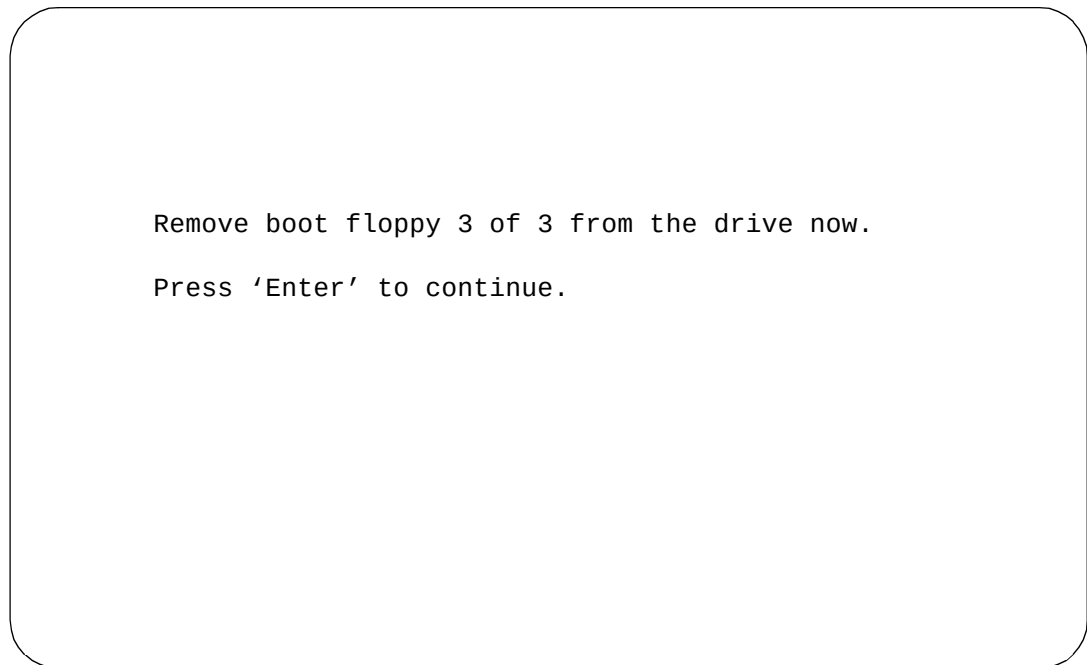

Figure 9-14. Remove Diskette Screen
The system displays the Remove Diskette Screen (Figure 9-14).
1. Starting at the Remove Diskette screen (Figure 9-14), press **ENTER**.